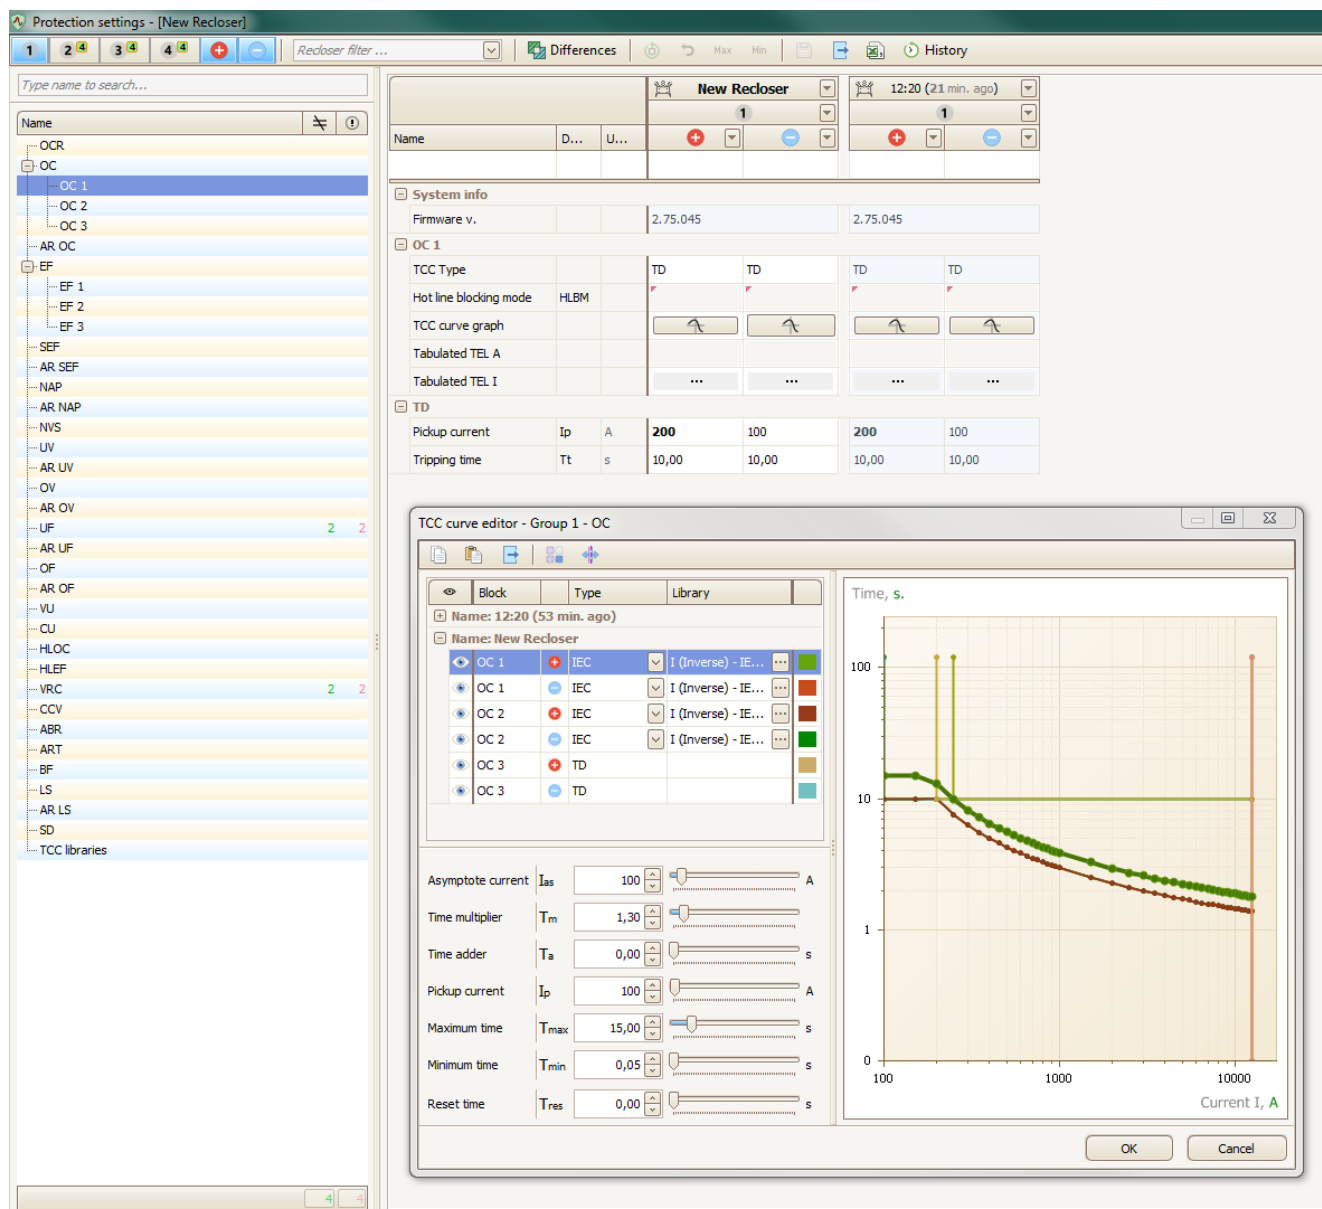

Figure 65
- 3) "Protection settings" window will popup where it is possible to edit settings, pick-up values and TCC curves (Figure 65).